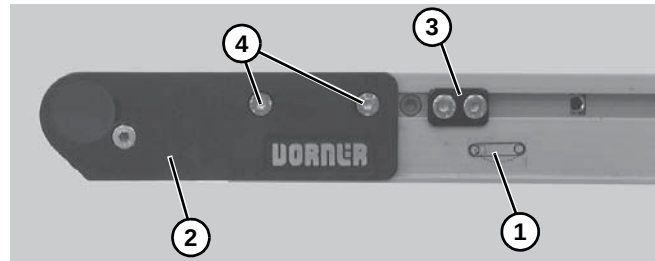

Figure 20
7. On tension end of the conveyor, identified with a  label (**Figure 20, item 1**), push in head plate assembly (**Figure 20, item 2**): On both sides of conveyor, loosen and move cam tracking assemblies (**Figure 20, item 3**) (if equipped) away from head plates, then loosen fastening screws (**Figure 20, item 4**) and push head plate assembly inward.